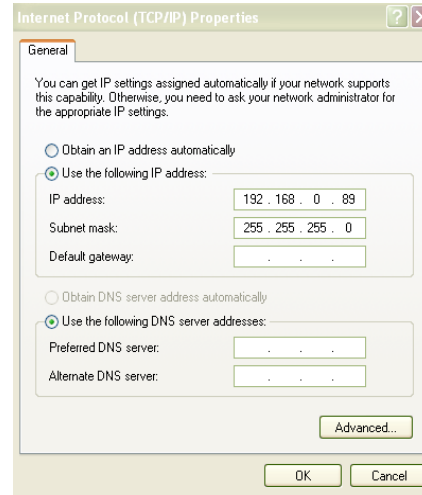

Figure 4.1
- 7.) Select **Use the following IP address** and enter in an IP address 192.168.0.51 (figure 4.1) for the DWL-2100AP or 192.168.103.3 for the CC501.